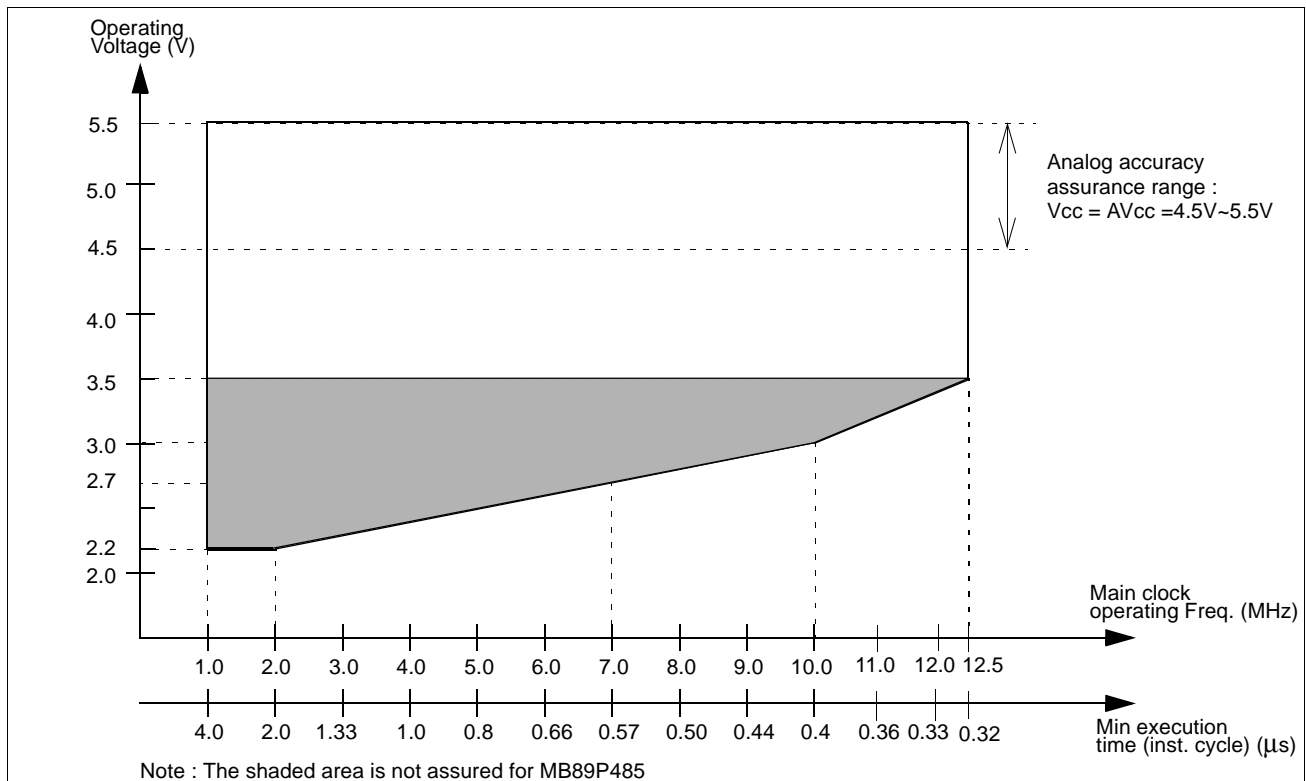

Figure 1 Operating Voltage vs. Main Clock Operating Frequency (MB89P485/485)
* : These values depend on the operating conditions and the analog assurance range. See Figure 1,2 and "5. A/D Converter Electrical Characteristics."